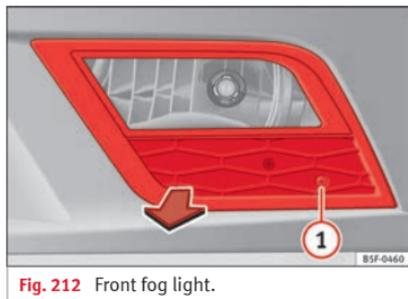

Fig. 212 Front fog light.
- Remove the bolt » Fig. 212 ① from the fog light grille with a screwdriver.